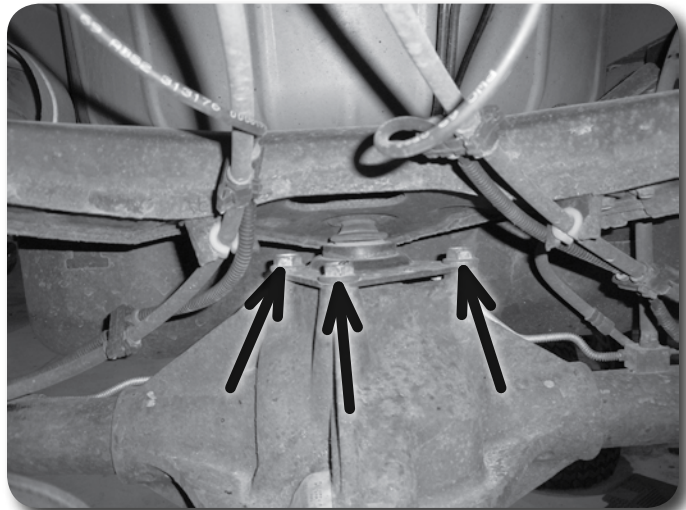

Figure 15
11. Locate the factory upper control arm end mount on the top of the differential. **Figure 15** Remove the three bolts mounting the control arm to the differential. Remove the front, center bolt first followed by the two side bolt (removed simultaneously). Once the side bolts are removed from the differential the control arm end can be rotated to allow the bolts to be removed.